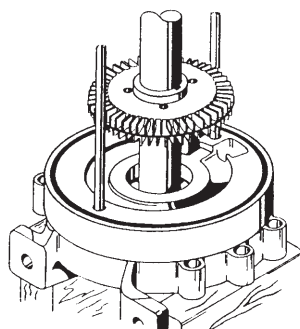

Figure 4-5
6. Slide an impeller (#11B) onto the shaft (#17B) and over the key (#23) nearest the drive end.(refer to figure 4-5) Place the impeller-shaft assembly into the ring, with the shaft extension down. If the blocking is the correct height, the shaft end should contact the bench at the same time the impeller covers the key.